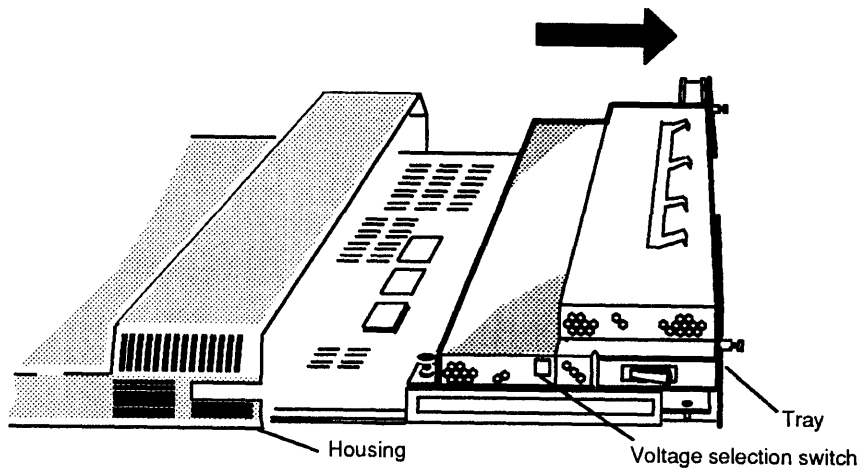

Figure 2-2 Sliding the Tray Assembly out of the Housing
3. Slide the tray assembly out of the housing until the voltage selection switch is visible, as shown in Figure 2-2.